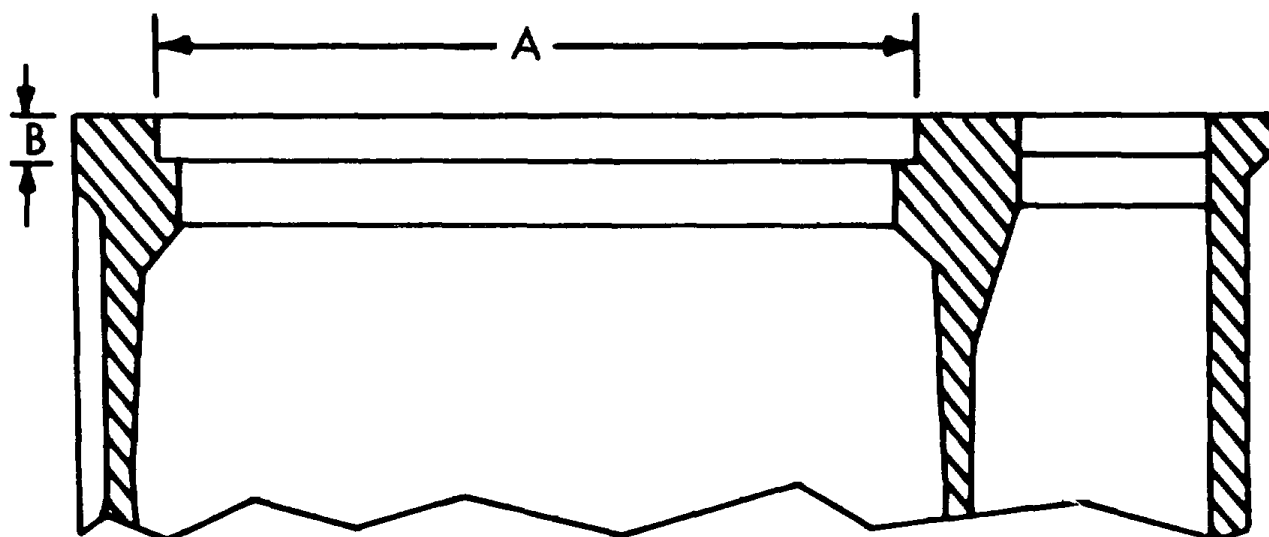

Figure 3-238. Cylinder liner counterbore dimensions.
(1) Inspect for corrosion on portions of block nearest cylinder liners as evidenced by pitting. Discard block if area cannot be cleaned, or if area is distorted.
(2) Inspect water passages for erosion within 1/32 to 3/32 inches from liner counterbore; if not too deep block may be resurfaced.
(3) Inspect all water passages to make sure they are open.
(4) Inspect for eroded water holes which may prevent proper seating of head gasket or grommet retainers. Water holes not eroded more than 1/16 inch from edge of hole can be reamed and bushings inserted.
(5) Use inside micrometer or dial bore gage to gage camshaft bushing inside diameter as illustrated in figure 3237. Replace bushings if worn larger than limit shown in table 2-2. If bushings have been badly chipped, scored or scratched, mark for replacement. If bushings have turned in block bore, check block size; see table 2-2.
(6) Check upper cylinder liner counterbore diameter A, at four equidistant points around the circumference of the liner as illustrated in figure 3-238. If counterbore exceeds limits shown in table 2-2 for the top 0.250 inch depth, the block will have to be machined for oversize flange liners (e.(4)). The counterbore ledge must be smooth and perpendicular to the cylinder liner bore.
(7) Check counterbore depth B so installed liner will be assembled to correct protrusion and to determine if refinish of counterbore surface is necessary. Depth of counterbore on a new block is listed in table 2-2. If worn to or beyond worn limit the cylinder block must be replaced.
(8) Installed cylinder liners must protrude 0.004/0.006 in. above block. To check for proper protrusion without installing a liner: